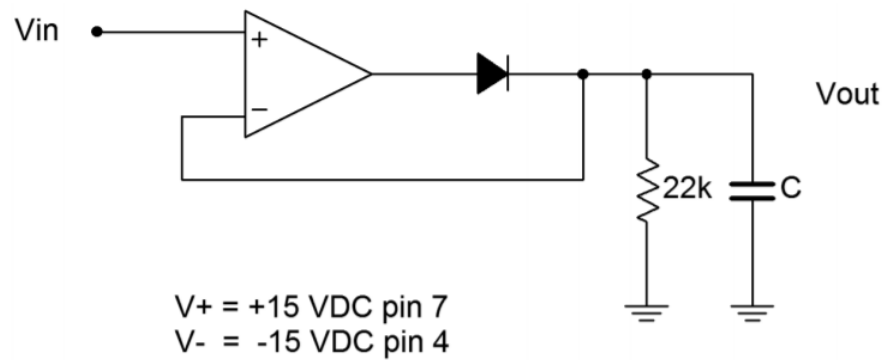

Figure 13.5.1
1. The circuit of Figure 13.5.1 is a precision half-wave rectifier. Without C, the circuit responds as an “ideal diode” allowing only positive half-waves through. The addition of C turns the circuit into peak detector or analog pulse-stretcher. Since all of the circuits in this exercise can produce DC components in the output signals, it is very important to take measurements with the oscilloscope input set to DC coupled.
2. Assemble the circuit of Figure 13.5.1 without the load capacitor.
19. Build the circuit of Figure 13.5.1 in a simulator using a 351 op amp and without the load capacitor. Run a Transient Analysis to determine the voltages at the output pin of the op amp and at V_{out} . Compare the waveforms to those recorded as Graphs 1 and 2.
1. What is the effect of flipping the diode in Figure 13.5.1?
3. What is the effect of increasing load capacitance in Figure 13.5.1?